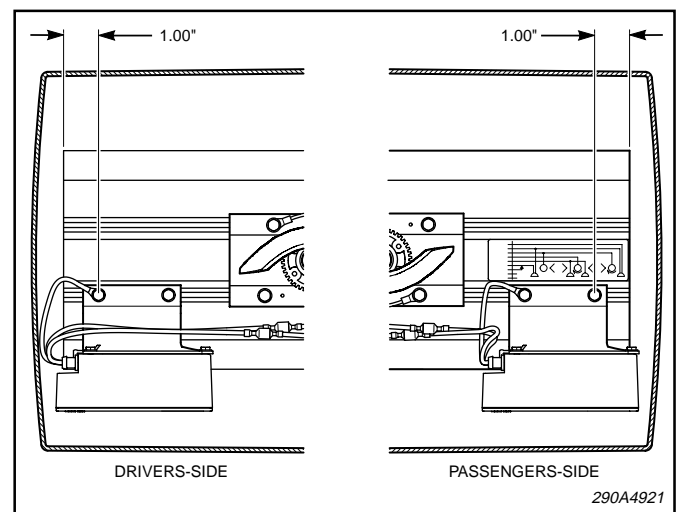

Figure 1.
4. Using figure 1 as a guide, place an LED stop/tail/turn assembly into the proper mounting location. Secure with two #10-32 thread forming screws (supplied). Make sure to ground the wire harness using a lock washer (supplied.)